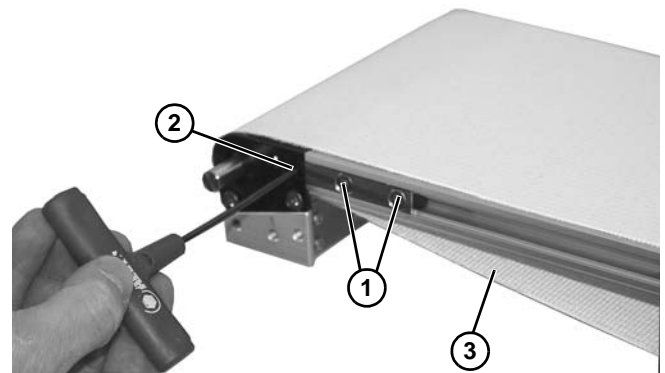

Figure 16
2. Loosen two screws (**Figure 16, item 1**) on both sides of conveyor.
3. Rotate tensioning screw (**Figure 16, item 2**) to lessen tension on belt (**Figure 16, item 3**).